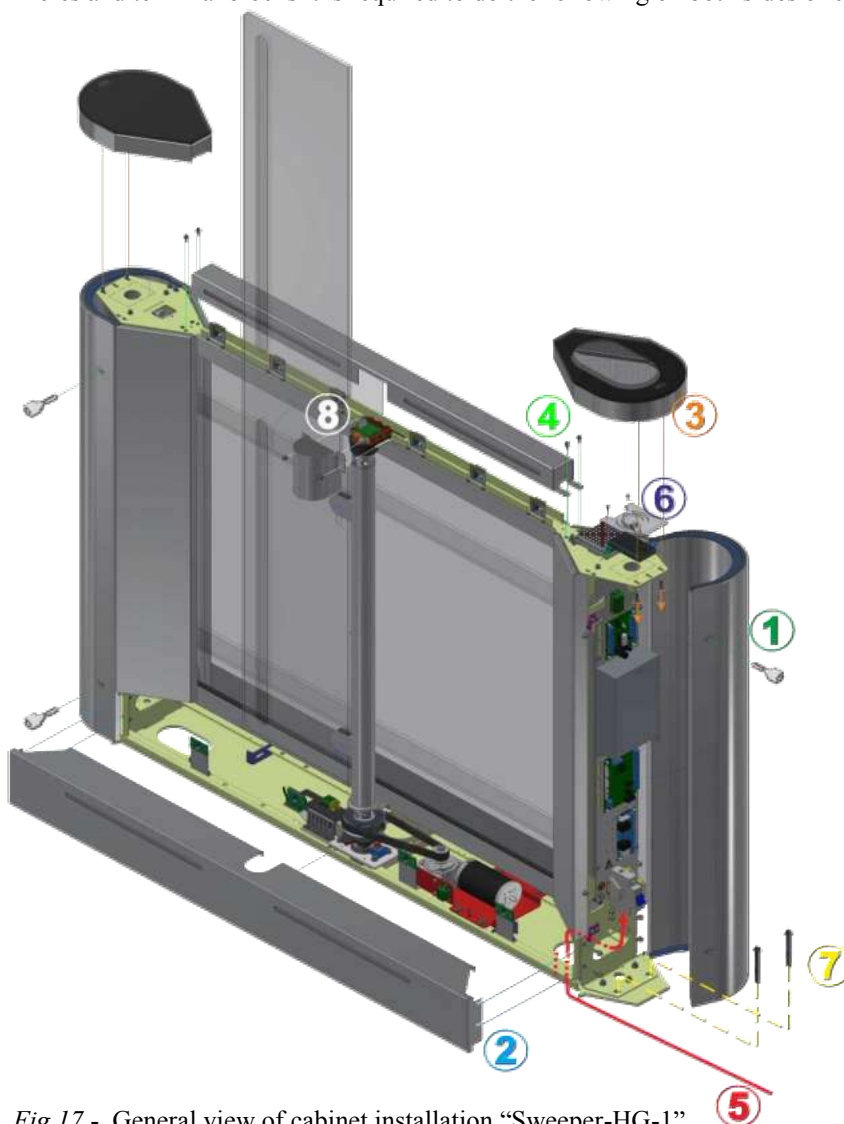

Fig.17 - General view of cabinet installation "Sweeper-HG-1"
1. - Locks to be unlocked by key and door to be turned (See Fig. 17);